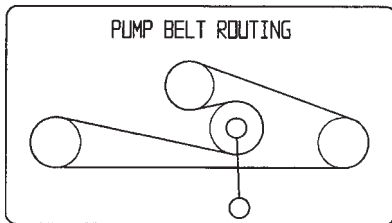

Figure 66
1. Pull the spring loaded idler down and remove the traction belt from the engine and hydro pump pulleys (Fig. 66). Remove the belt between the pulleys.
2. Install the new belt around the engine and hydro pump pulleys (Fig. 66).
3. Pull the spring loaded idler down and align it below the traction belt. Release the pressure on the spring loaded idler (Fig. 66).